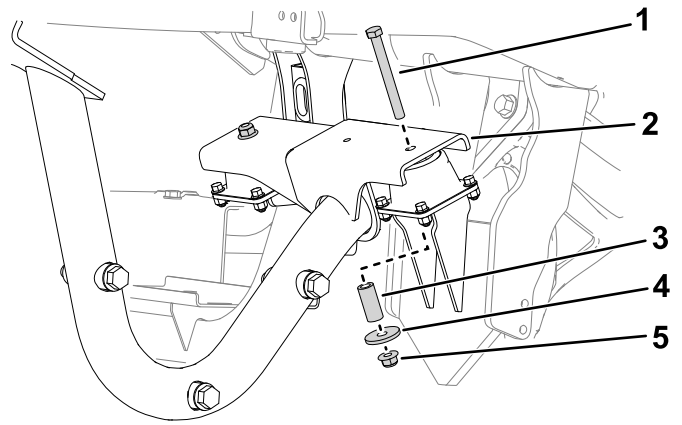

Figure 2
2. Remove the existing bolts, spacers, and nuts from one of the motor mounts on the engine frame (Figure 2).